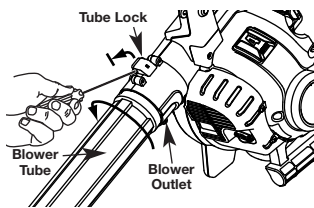

Fig. 5
2. Insert a flathead screwdriver into the tube lock and twist the screwdriver counterclockwise 1/4 turn and hold it there (Fig. 5).
3. While holding the screwdriver in a counterclockwise position, grasp the blower tube and twist it counterclockwise (Fig. 5).